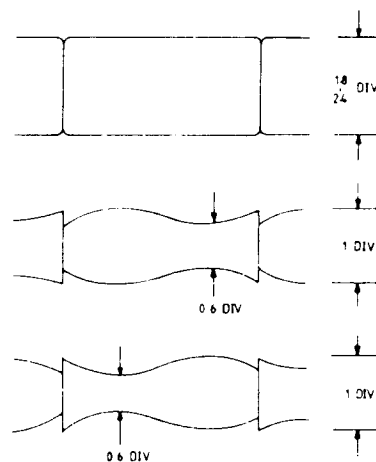

Fig. 6 Interchangeability Confirmation
6. Turn tracking control (VR0703) to the left so that maximum envelope amplitude is 1 graticule divisions (Fig.6).
7. Confirm that the minimum envelope amplitude is 0.6 graticule divisions or more (Fig. 6.)
8. Turn tracking control (VR0703) to the right so that maximum envelope amplitude is 1 graticule divisions (Fig. 6.)
9. Confirm that the minimum envelope amplitude is 0.6 graticule divisions or more (Fig. 6).